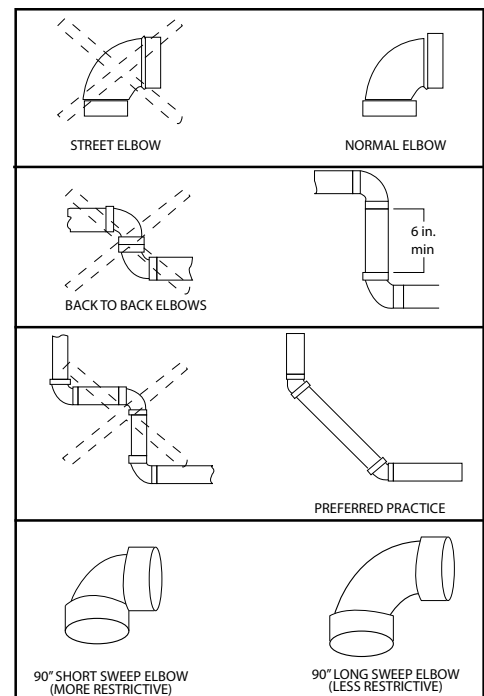

Fig. 14
Note: The information provided in Figure 14 is intended as a guideline for good vent installation practices only and is not intended to restrict venting options beyond those restrictions established by the current edition of the **“National Fuel Gas Code, ANSI Z223.1/NFPA 54”** or any applicable local and state codes.
3. Avoid using 90 degree elbows "back to back" and do not use street elbows. Maintain a minimum 6 in. straight section between elbows. Closely coupled and short radius elbows reduce the venting capacity. Figure 14 shows examples of vent pipe connections.